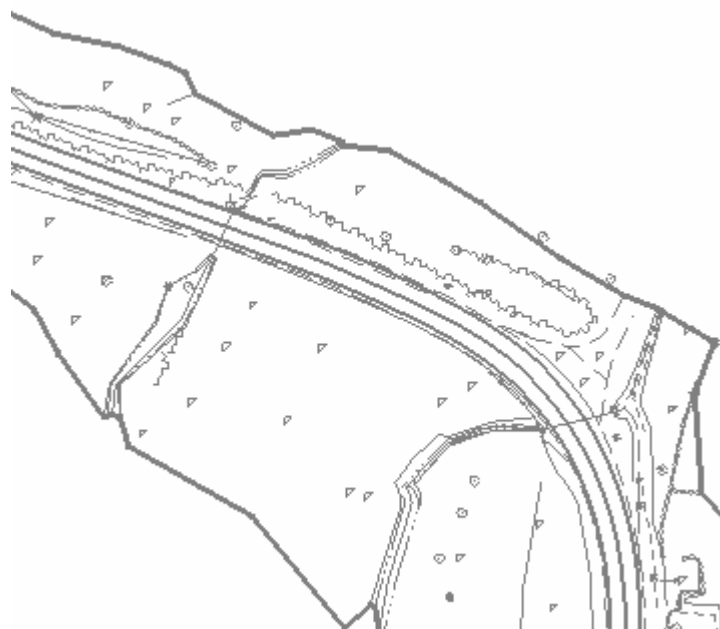

Figure 2-8 MicroStation View of InRoads Generated Features
- N. Right Click over the Features in the interface window and data point on **Select All** and click **Apply**. Figure 2-8 shows all the features in an existing DTM.